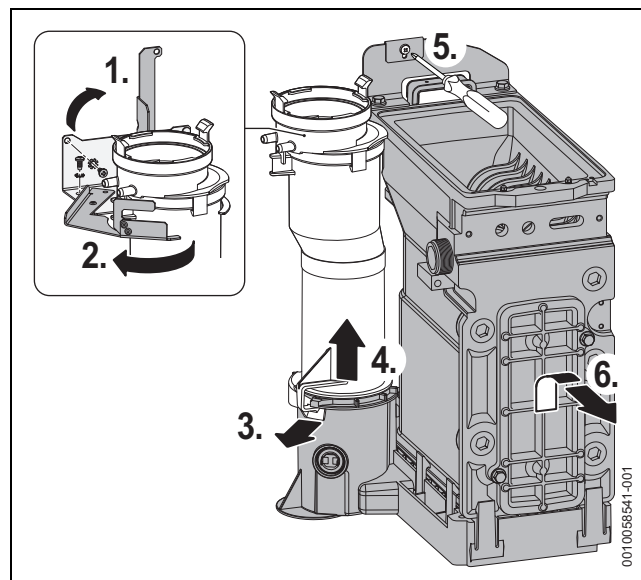

Fig. 102 Removing the heat exchanger assembly
Refer to figure 102.
- The exhaust pipe will have to be removed if the thermostat falls into the housing, refer to figure 102, removing the exhaust pipe from the condensate catch pan (sump).